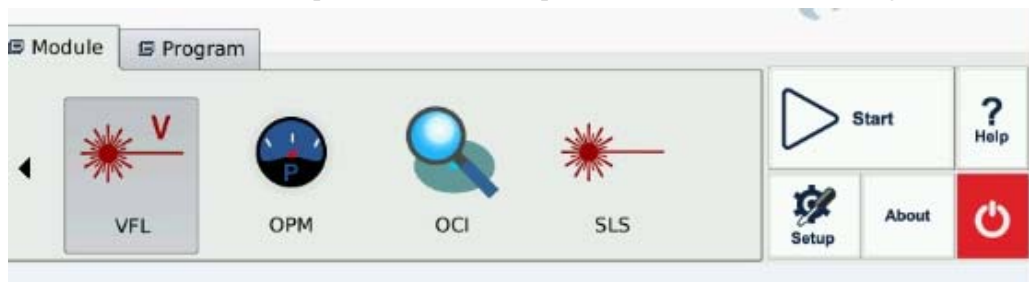

Fig. 18.1 Optical Connector Inspector Interface
3. Click “OCI” icon to enter Optical Connector Inspector interface as shown in Fig 18.1.